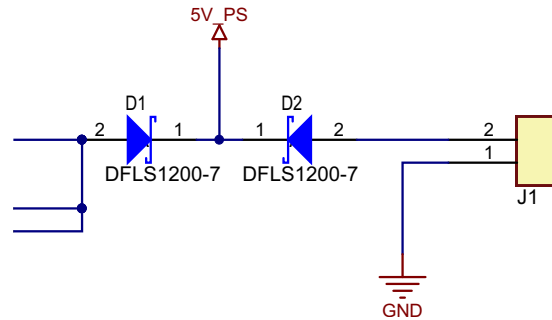

Figure 11. 5-V Power
1. By external 5 V or 5 V from the controller board as shown in Figure 11.